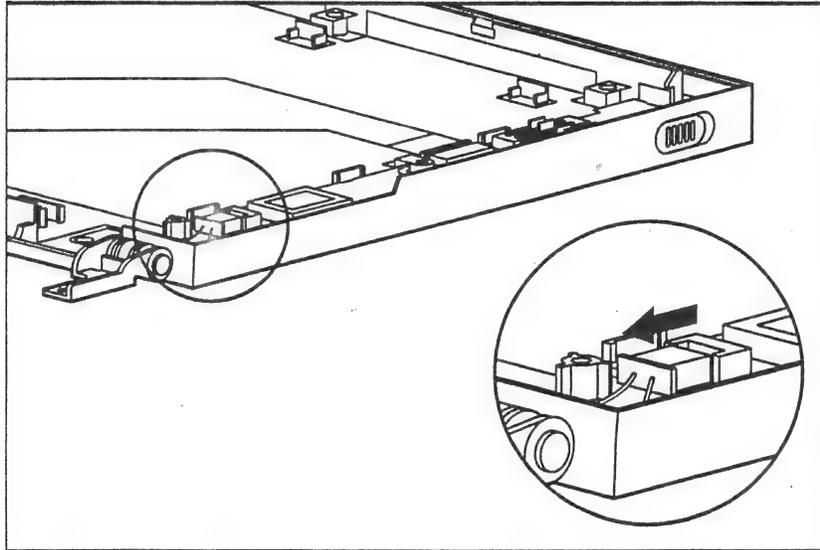

Figure 2-38. Disconnecting the Backlight Cable
3. Disconnect the backlight cable from the display inverter board (Figure 2-38).